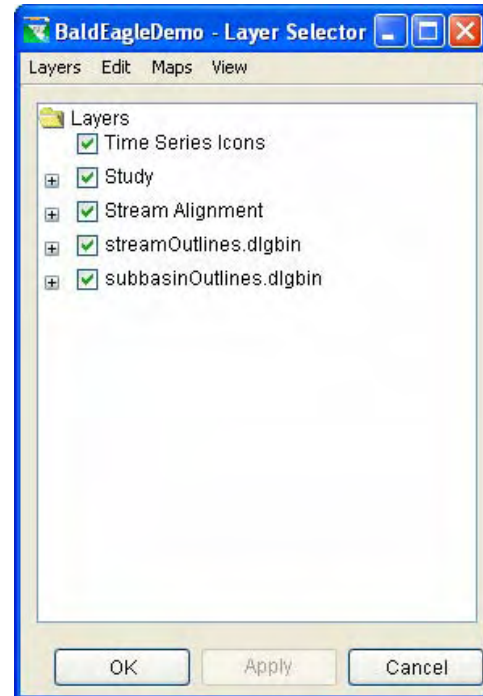

Figure 3.10 Layer Selector Dialog Box
1. Select **Layers** from the View menu. The **Layer Selector** dialog box will appear (Figure 3.10).